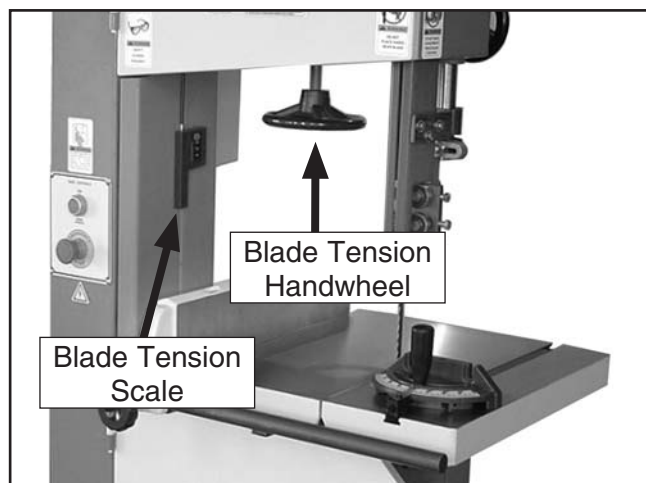

Figure 23. Blade tensioning controls.
3. Turn the blade tension handwheel until there is moderate tension on the blade (**Figure 23**).